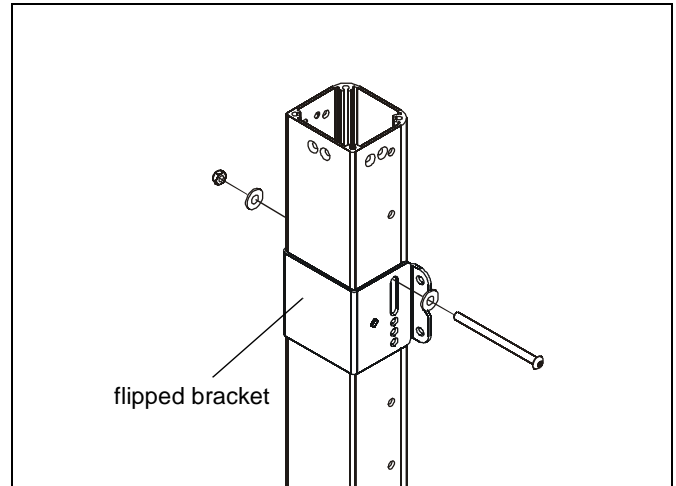

Figure 9
**NOTE:** Clamp brackets (P) may be flipped in order to use long slots for installation if necessary. (See Figure 9)